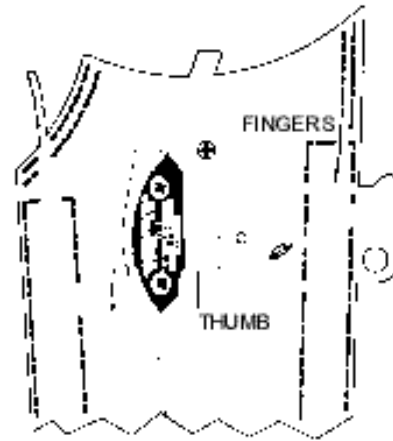

FIGURE 2.
- d. Refer to Figure 2. Grasp the slack checker with the right hand, palm down, and with the thumb pressed into the curved recess. Grasp the swaged section of the ripcord pin with left hand. Simultaneously rotate the slack checker and ripcord pin in the directions shown by the arrows. Hold the ripcord pin with the left hand in a fixed position when it becomes horizontally aligned.